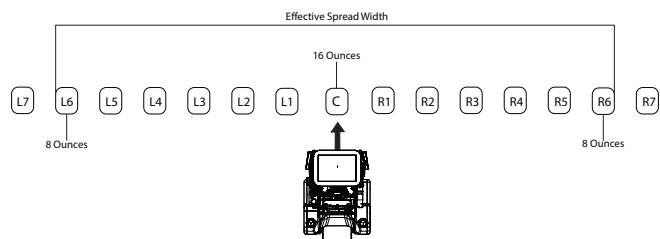

Figure 5-11. Measuring Effective Spread Width Example
7. Each pan's material should then be measured and recorded. The effective spread width is determined by taking these measurements and finding which pan on each side has half of what the center pan has. (EX. If the center pan has 16 ounces, and the 6th pan away from the machine on each side has 8 ounces. The effective spread width would be the distance between the outside of the pan with 8 ounces on the left to the outside of the pan with 8 ounces on the right.) See Figure 5-11. If the path is not equal on each side, adjust the diffuser control, and repeat the procedure until the spread pattern is even on each side.